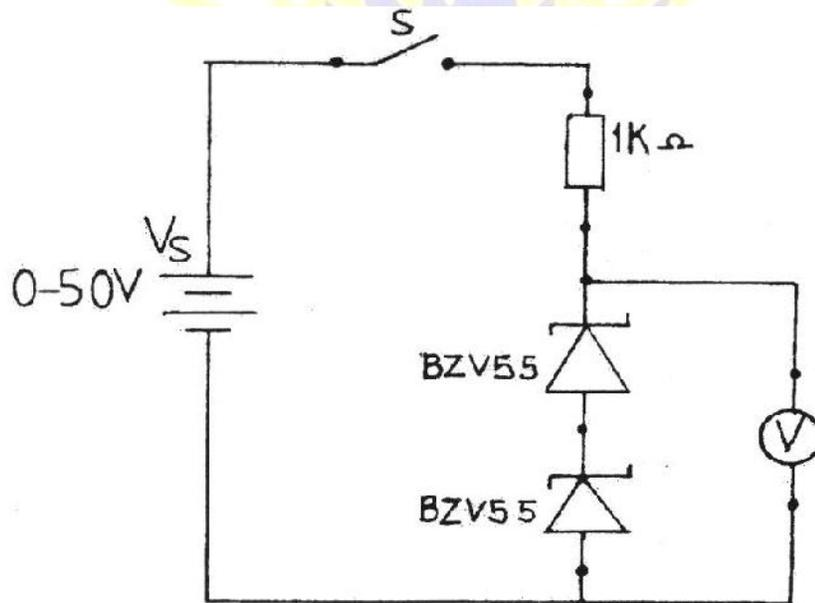

Fig. 2
- (a) Connect the circuit diagram as shown in Figure 2.